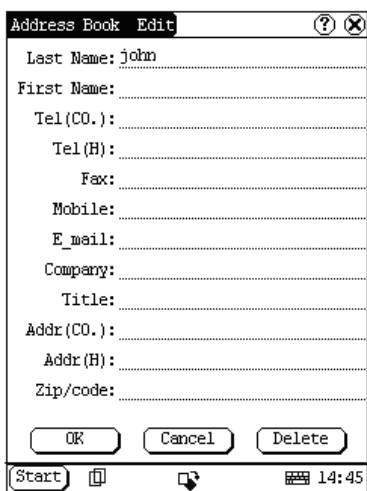

Fig 4-17
- 2) Then the information about the person can be edited in the opened Address Edit interface. See Fig 4-17.